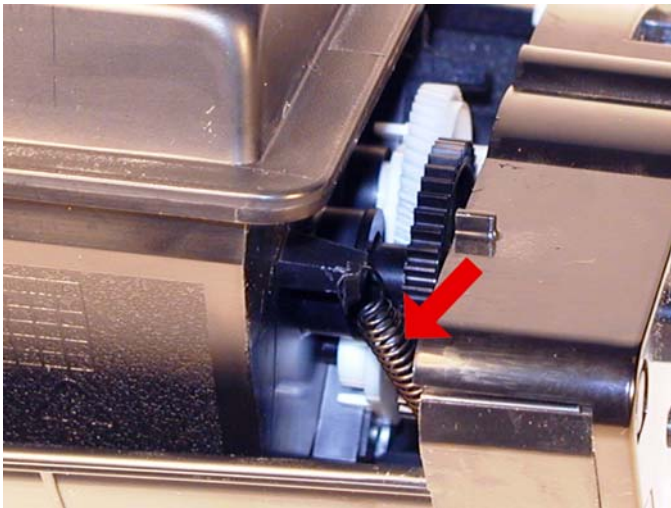

Figure 63
57) Place the hopper partially into the frame, hook up the spring onto the hopper. See **Figure 63**